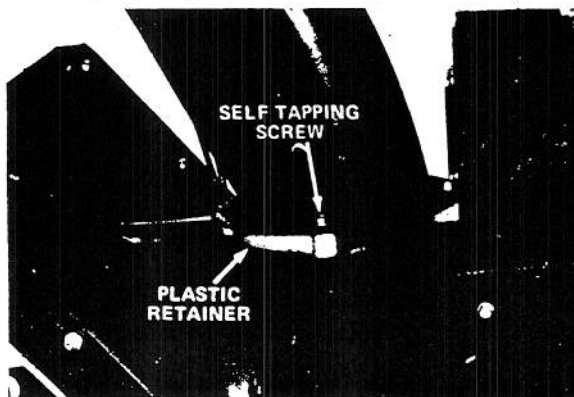

Figure 10
4. Set discharge chute — open side forward — onto retaining ring and line up mounting holes. Next, secure discharge chute, retaining ring, and plastic retainers together with three self tapping screws (Fig. 10).